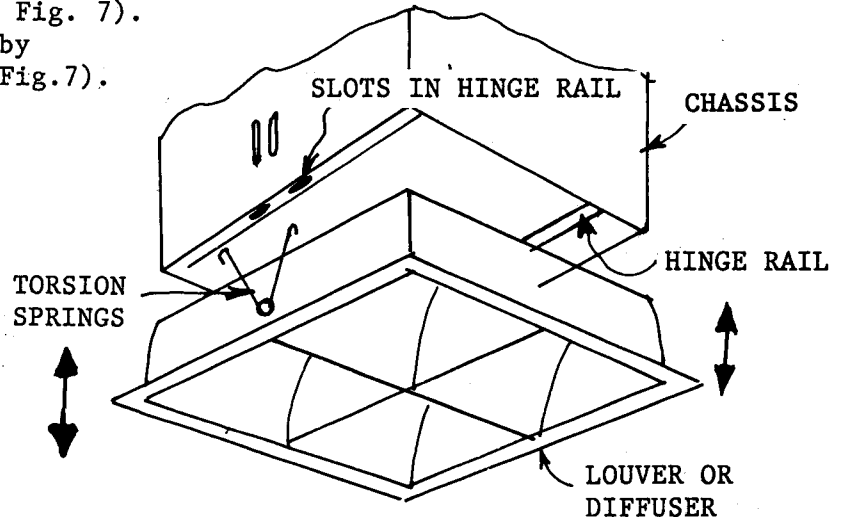

FIG. 7
2. Push louver up into fixture till seated against ceiling surface. (Fig. 7).
3. To remove, grasp louver firmly by edges and pull straight down. (Fig.7).